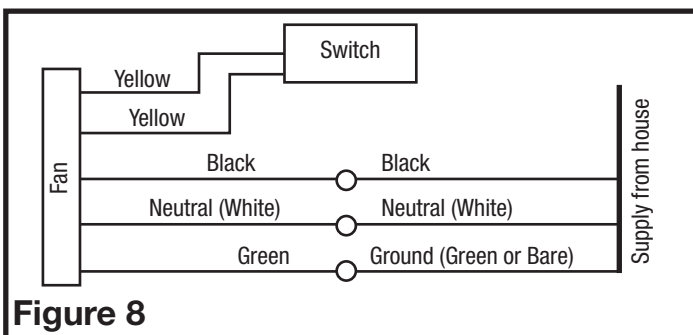

Figure 8
2. For two speed fans wired for continuous ventilation, connect the White wire of the fan to the White (Neutral) wire from the power source. Connect the ground wire from the house to the green wire from the fan housing. Run 2 wires from a properly grounded wall switch (not included) to the fan. Connect the Black wire of the fan to the Black wire (Hot) from the power source. Connect the Hot Yellow wire from the fan to the input of the switch. Connect the second Yellow wire from the fan to the output side of the switch. Closing the switch will change from normal to high speed (**Figure 8**).